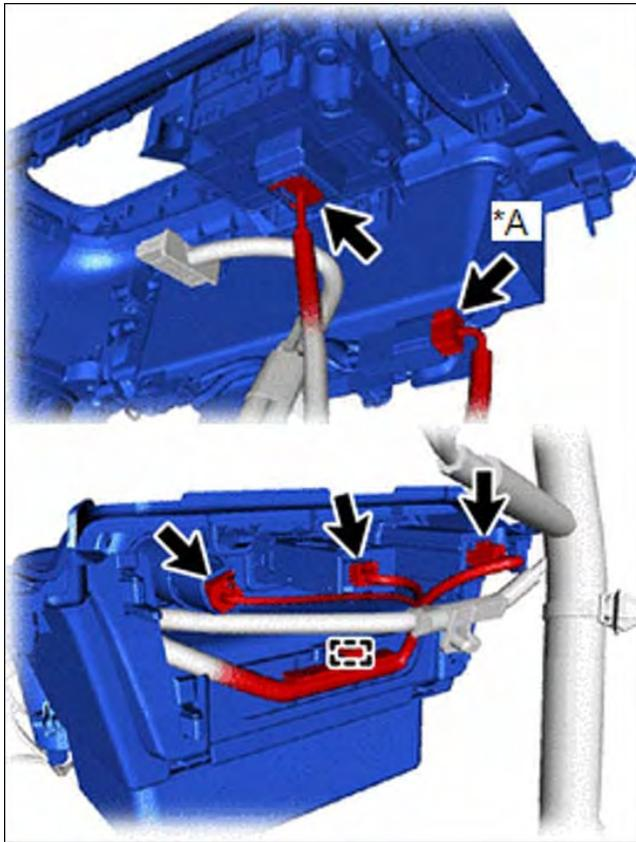

Figure 18
- (c) With wireless charger, disconnect the connectors, as shown in Figure 18.